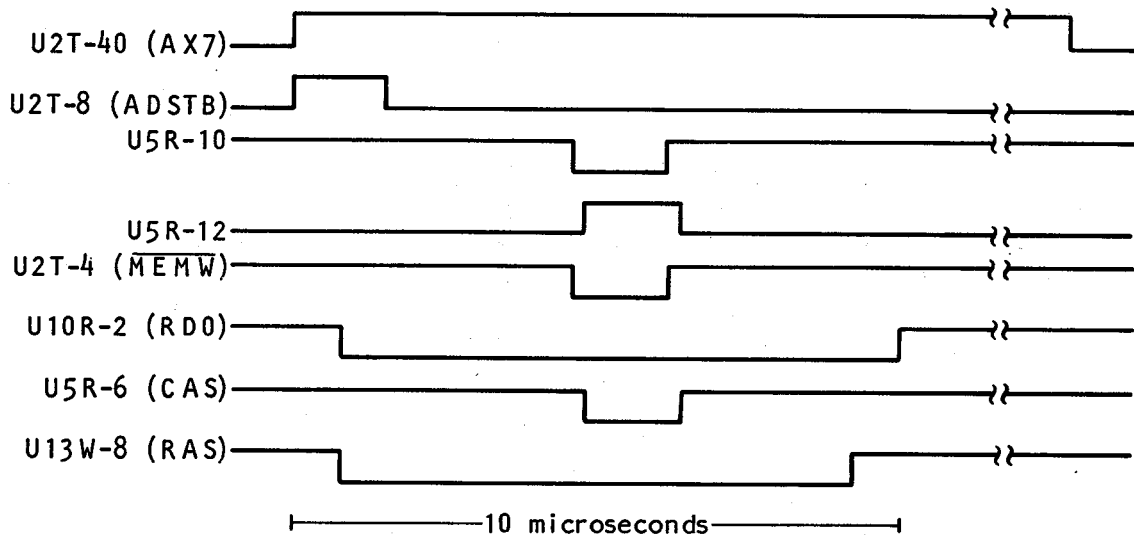

Figure 3-4. Service Aid 42 Sequence Timing
3-29. **Service Aid 42.** This service aid activates the cache memory DMA controller (channel 2), address and data lines for troubleshooting. See Figure 3-4 for the relative timing/sequence of a cache memory write operation. The data lines have a high state (1) value rotated through the byte from LSB to MSB, therefore, only one bit is high at a time. The address lines have a low state (0) value rotated through the 16 bit address word, thus, only one address line is low at a time. Power must be cycled to exit this service aid.